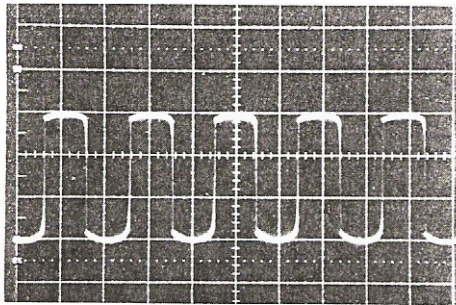

Fig. 5 At pin #9 of BA652
- l. Faulty operation can also be corrected by comparing with the normal condition waveforms, Figs. 5, 6, 7, and 8.